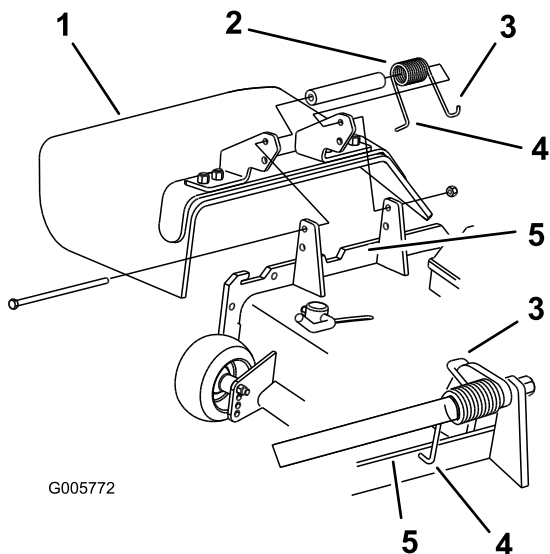

Figure 29
1. Make sure the **L** end of spring is installed behind the deck edge before installing the bolt as shown in Figure 29.
2. Place the **J** hook end of spring around grass deflector (Figure 29).